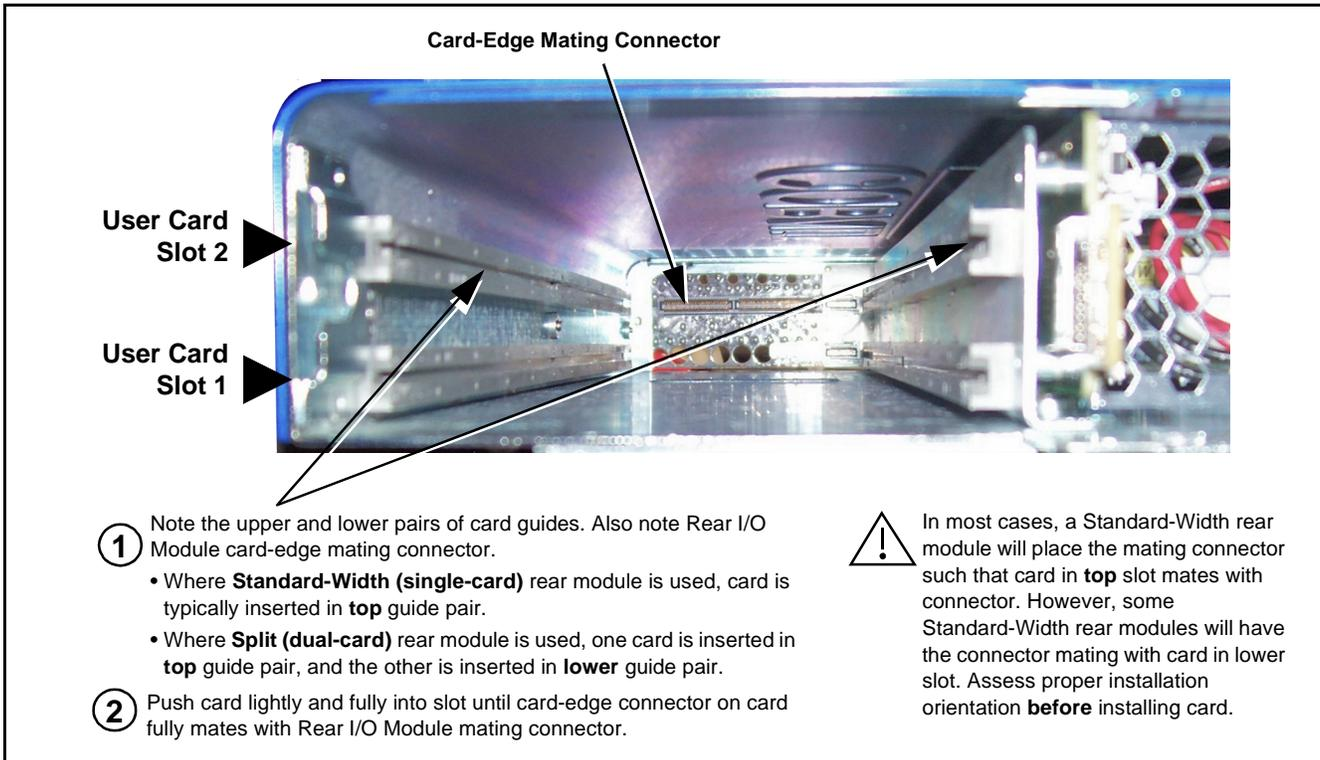

Figure 2-6 Card Installation
3. (See Figure 2-6.) While holding the card by the card edges, align the card horizontal such that the plastic ejector tab is on the **right** (component-side facing up).